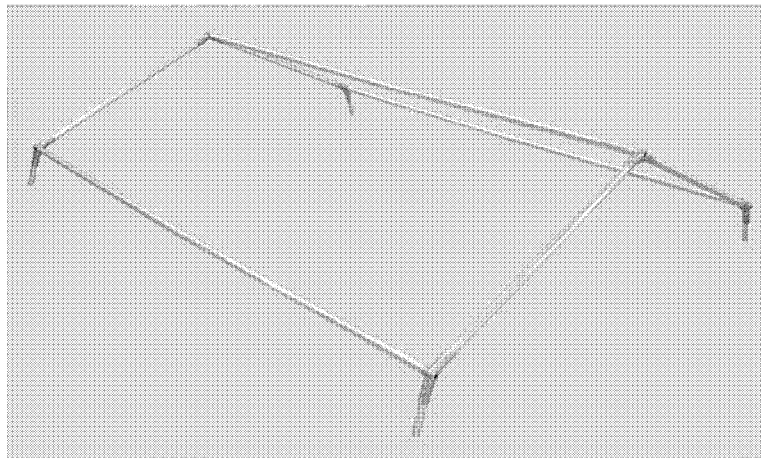

Fig 10 Roof Framework Assembled
- 14.2 The shortest poles are fitted from ridge to eave. The six 3-way brackets are fitted three at each end of the roof assembly. Fig 10 and 11.